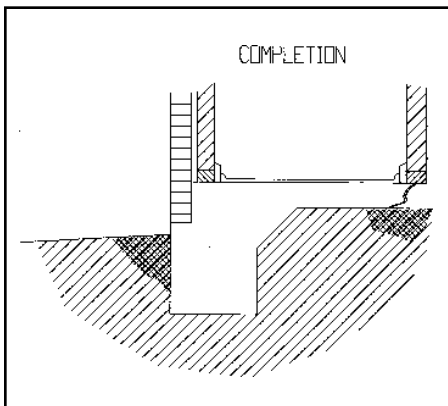

Figure 15. Monolithic slab treatment
This composite diagram (Figure 15) shows the total protection afforded the structure by thoroughly treating (1) the soil around the exterior perimeter of the building to a point lower than the bottom of the veneer, (2) the soil beneath interior wood partition walls, and (3) foundation voids if they extend below exterior grade level.